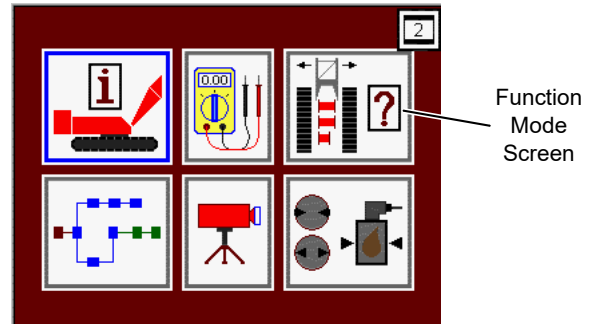

FIGURE 3-5
1. Enter the function mode in the main display (Figure 3-5).